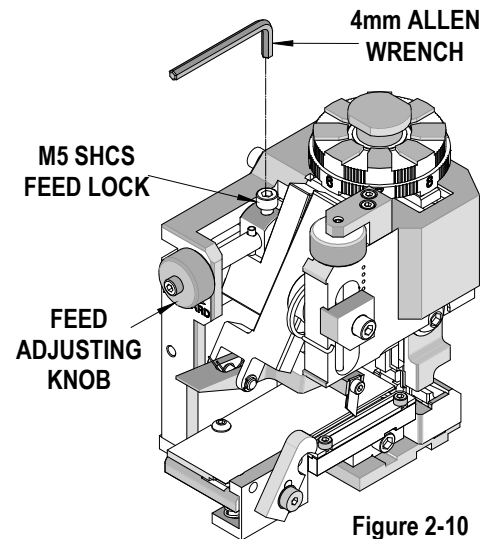

Figure 2-10
3. Loosen the M5 SHCS feed lock and then turn the feed adjusting knob to reposition the terminal. To shorten the feed position, turn the adjusting knob clockwise (CW). To lengthen the feed position turn the adjusting knob counter-clockwise (CCW). See Figure 2-10.